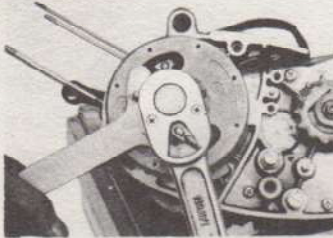

Fig. 3-23
1. Hold the flywheel with the flywheel magneto holding tool, and remove the nut. (Fig. 3-23)